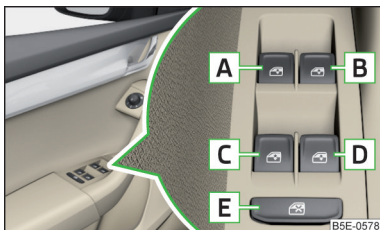

Fig. 62
**Power window buttons** » Fig. 62
- After the driver or front passenger door is opened, the operation of the window is only possible with the button **A** » Fig. 62, in which case this is pressed or pulled for approx. 2 seconds.
- › **or:** Switch off the ignition, open the driver's door and hold the key  until it stops in the open position » Fig. 62 on page 69.
- › **or:** Switch off the ignition, open the driver's door and hold the key  until it stops in the closed position » Fig. 62 on page 69.